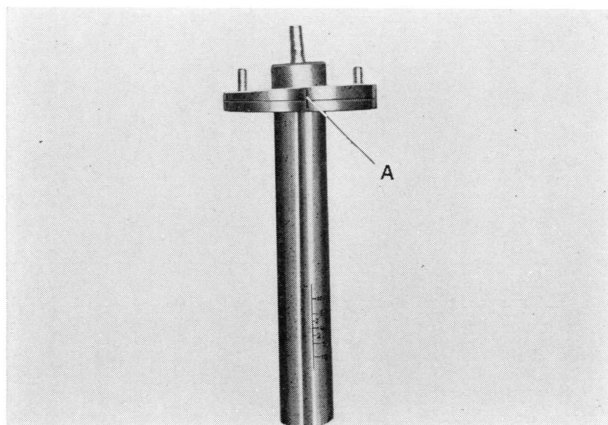

Fig. 11-19 Installing angle plate
- 2) Intall the angle plate (right or left) corresponding to the side to be corrected onto the slide post so that it is in line with A as shown in Fig. 11-19.